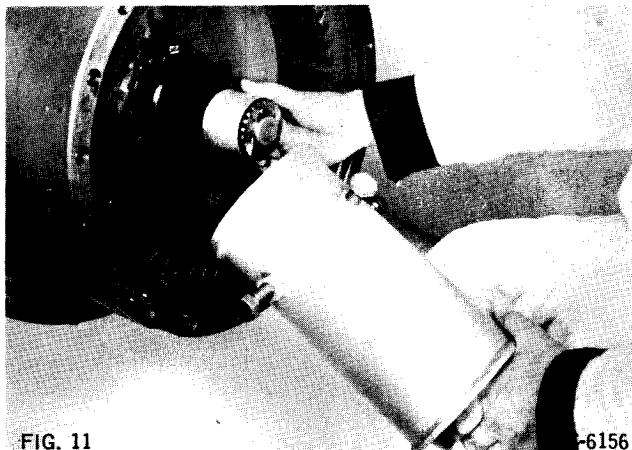

FIG. 11
11. Support weight of hub and drum assembly with hoist. Wrap several turns of .010" to .020" shim stock around end of axle shaft to protect shaft splines (Fig. 11). Install special wrench (Clark No. 945940) on outside spindle nut. Tighten guide screws lightly against shim stock.